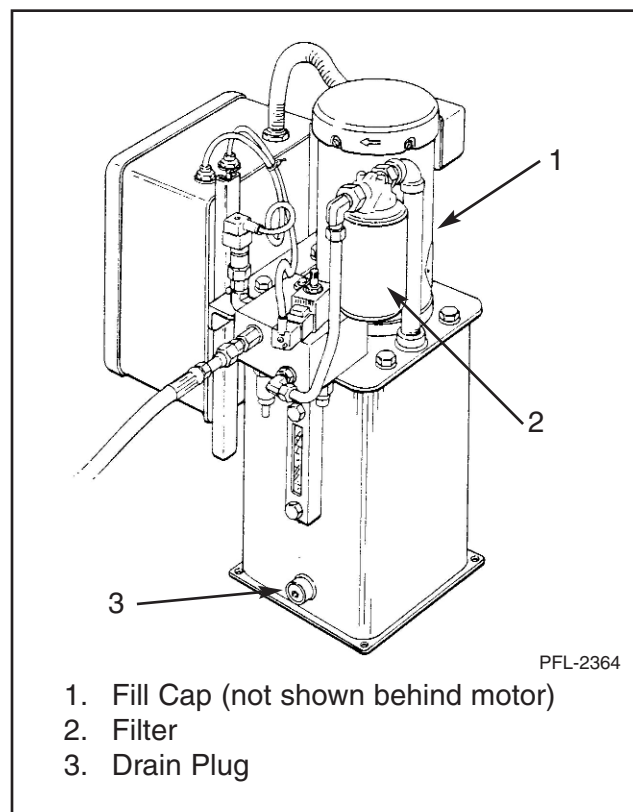

Figure 23
3. Drain the system by removing plug near bottom of reservoir. See Figure 23. When draining the system, it is desirable to remove ALL of the used oil. Allow sufficient time for thorough draining so that a minimum of the old oil remains in the system. In most cases, bleeding at the lowest point in the system will help. It is also advisable to drain only after the oil is